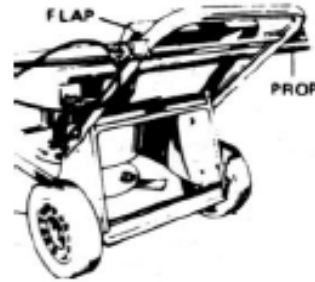

Figure 16. Blade change
Blades - refer figure 16
Cutting Assembly - refer to figure 16
Blade Change- refer figure 16 and 17
- With the engine stopped, spark plug lead and grass catcher or mulch plug removed, open the discharge flap and prop in the open position. Refer to figure 16.